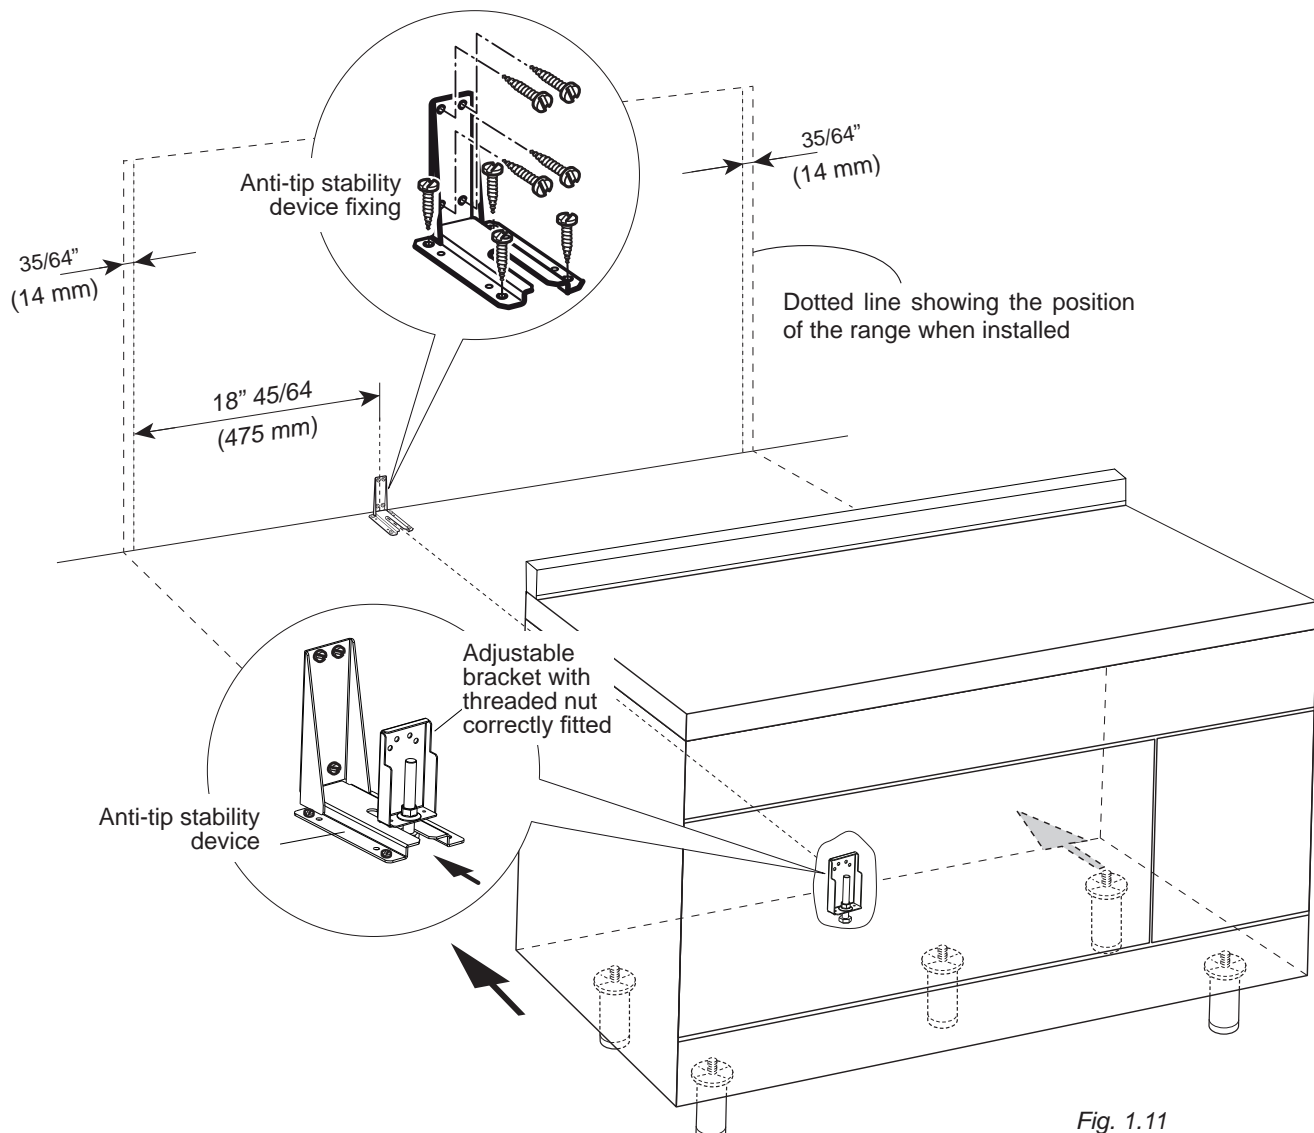

Fig. 1.11
3. Fix the stability bracket in place (fig. 1.11). It can be fixed as follows: